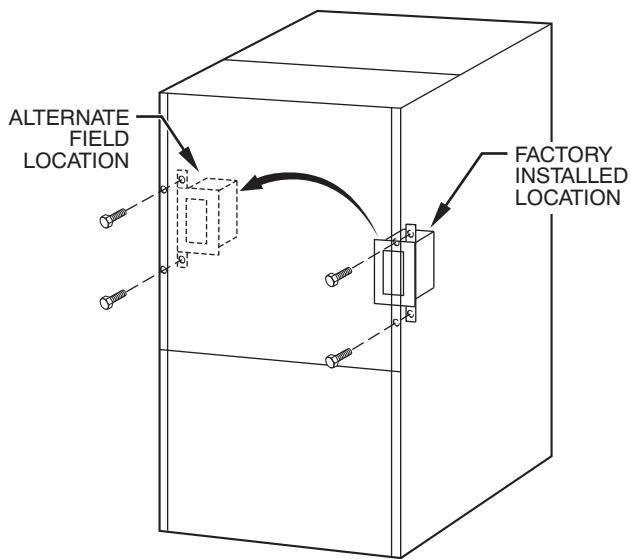

Fig. 32 - Relocating J-Box
1. Remove 2 screws holding auxiliary J-box. (See Fig. 32.)